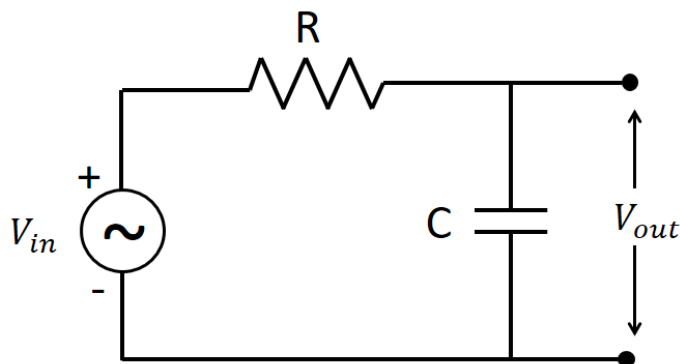

Figure 2.2: RC circuit diagram of the experiment
1. Connect the circuit as per the Figure 2.2.
Brief Theory: The series RLC circuit is composed of a resistor (R), a capacitor (C), and an inductor (L) connected in series as illustrated in Figure 2.2. In case of a pure ohmic resistor the voltage and current waveforms are in-phase with each other. In case of pure inductance surface